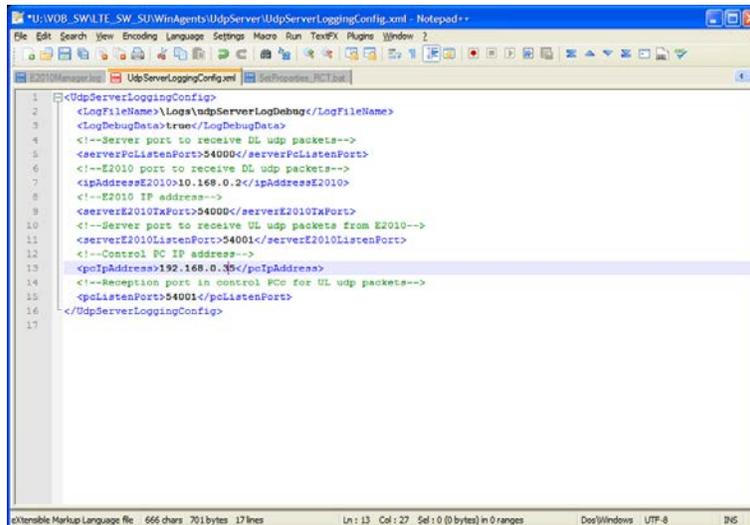

Figure 2-51: Notepad – Editing the IP Address
- In the *Notepad* window, under the line marked `<pcIpAddress>`, enter **192.168.0.35** for the IP address, as shown in Figure 2-51.